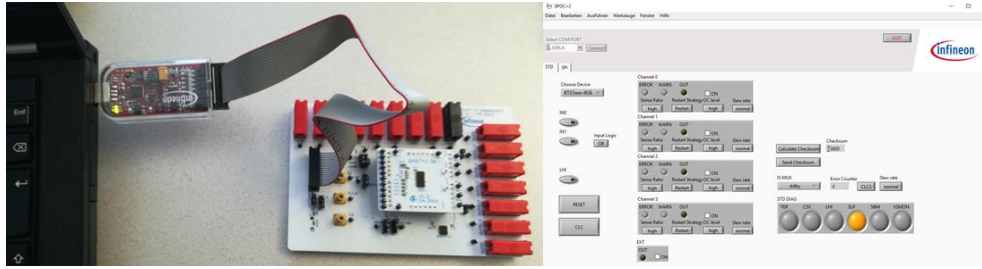

Figure 13 - Finished setup
- Connect the μ O-Stick to your computer and run the SPOC™+2-Application. (see Figure 13)